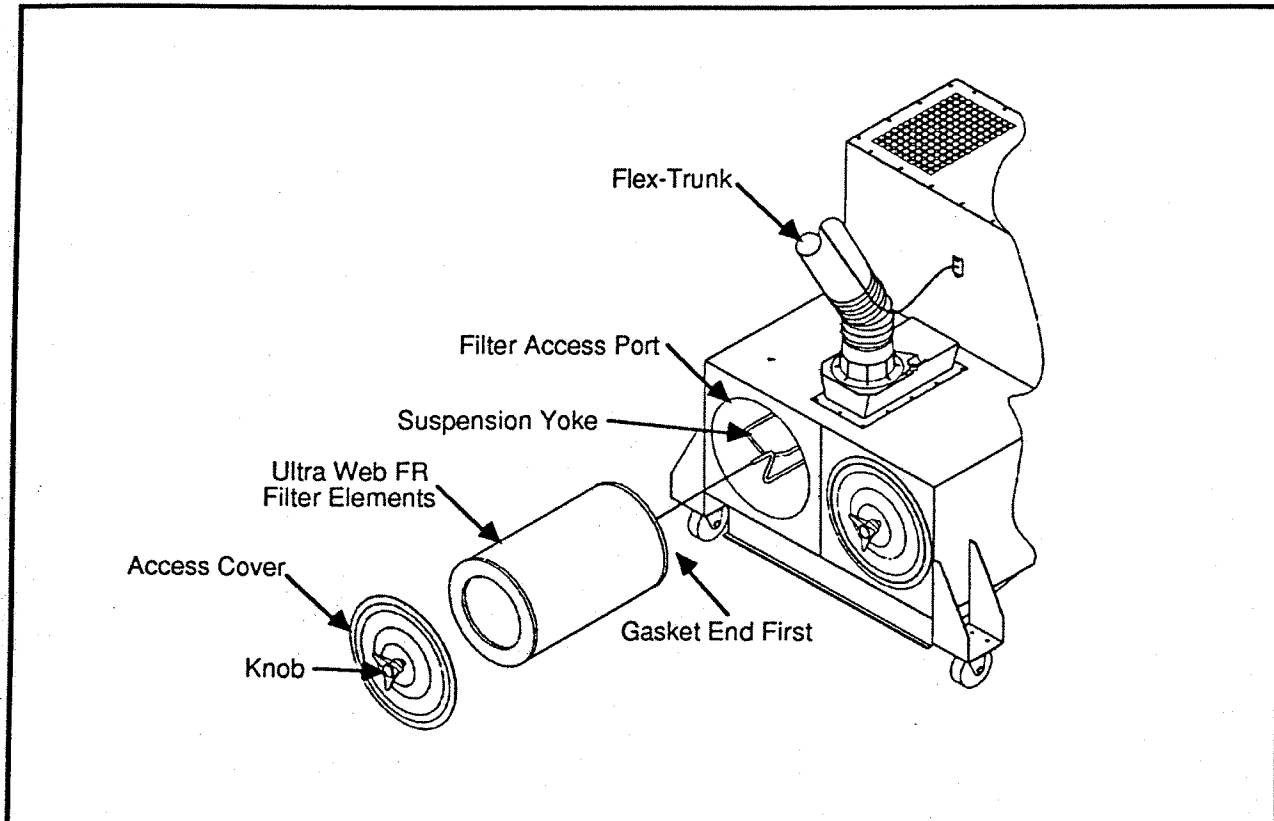

Figure 11
3. Install the hopper access door by turning the two (2) knobs clockwise and tightening securely.
6.0 Service (See Figure 11)
6.1 Filter Element Removal (See Figure 11)